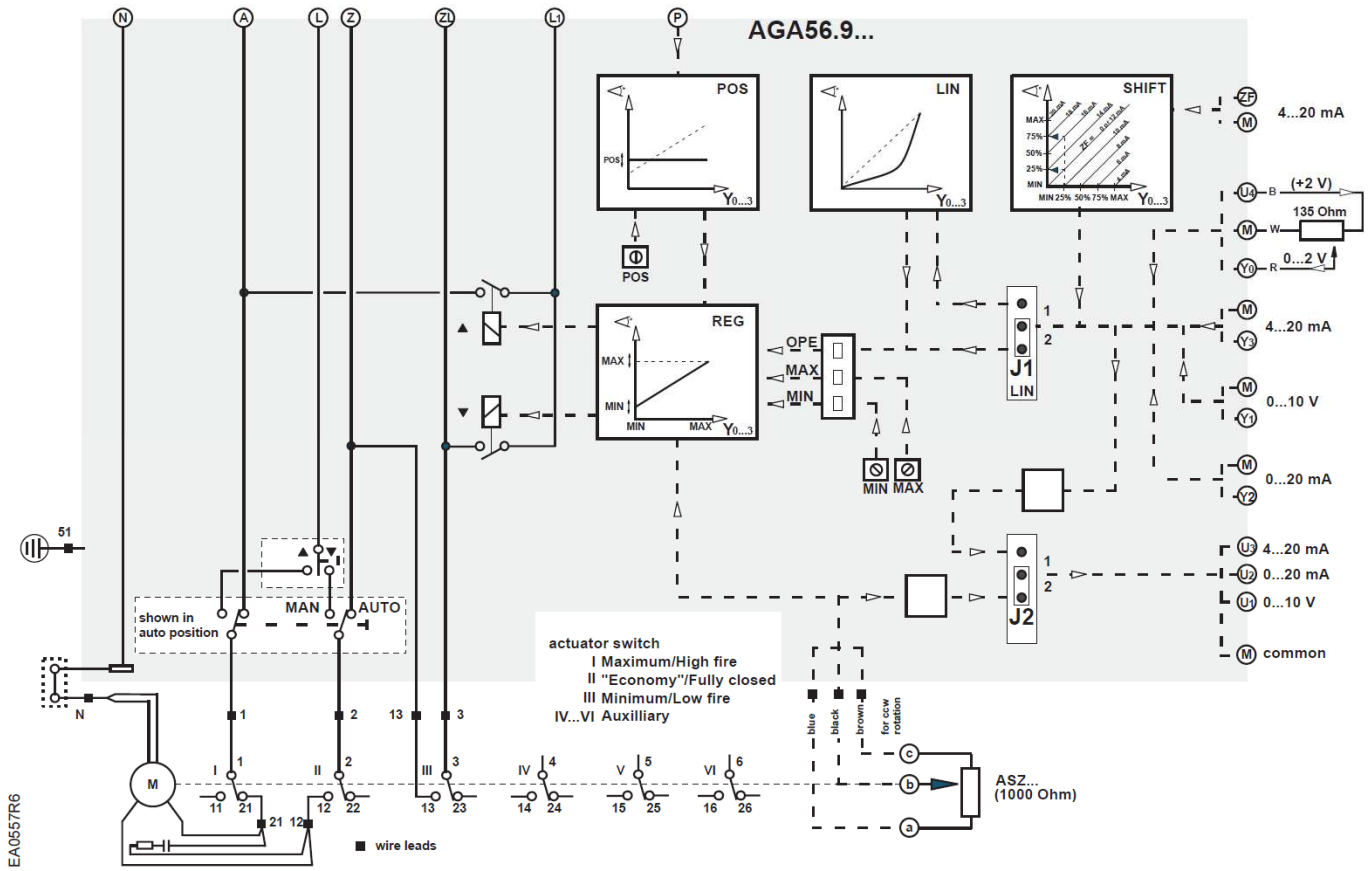

Figure 11. Basic Functional Diagram of AGA56.9...
See Figures 11 and 12.
9. Connect the input control signal wires to the appropriate terminals. See Figure 11.